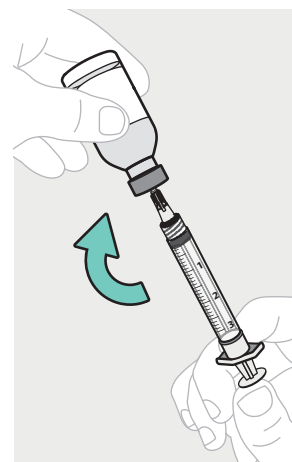

Figure 49
- j. Without letting go of the syringe plunger rod, keep pressure on the plunger rod and invert (turn upside down) the insulin vial and syringe (while the syringe needle is still in the vial) (see Figure 49).